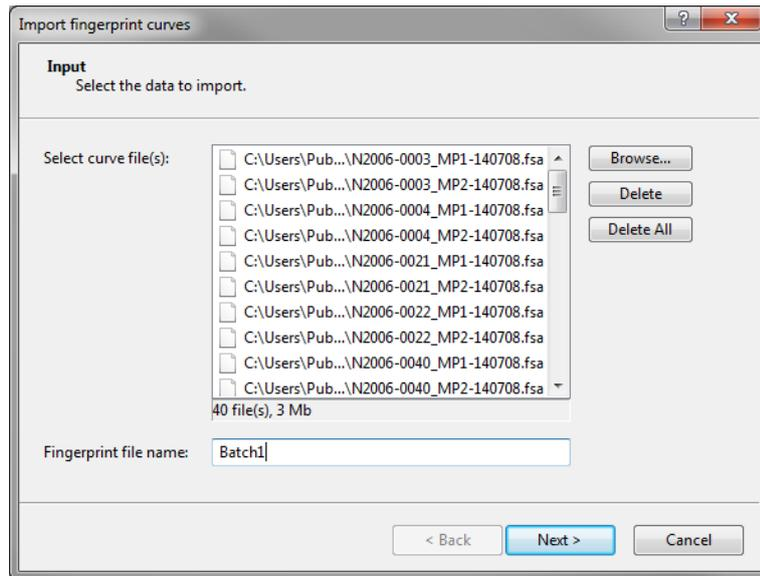

Figure 1: Selected curve files and fingerprint file name.
4. Change the name to **Batch1** and press **<Next>** (see Figure 1).